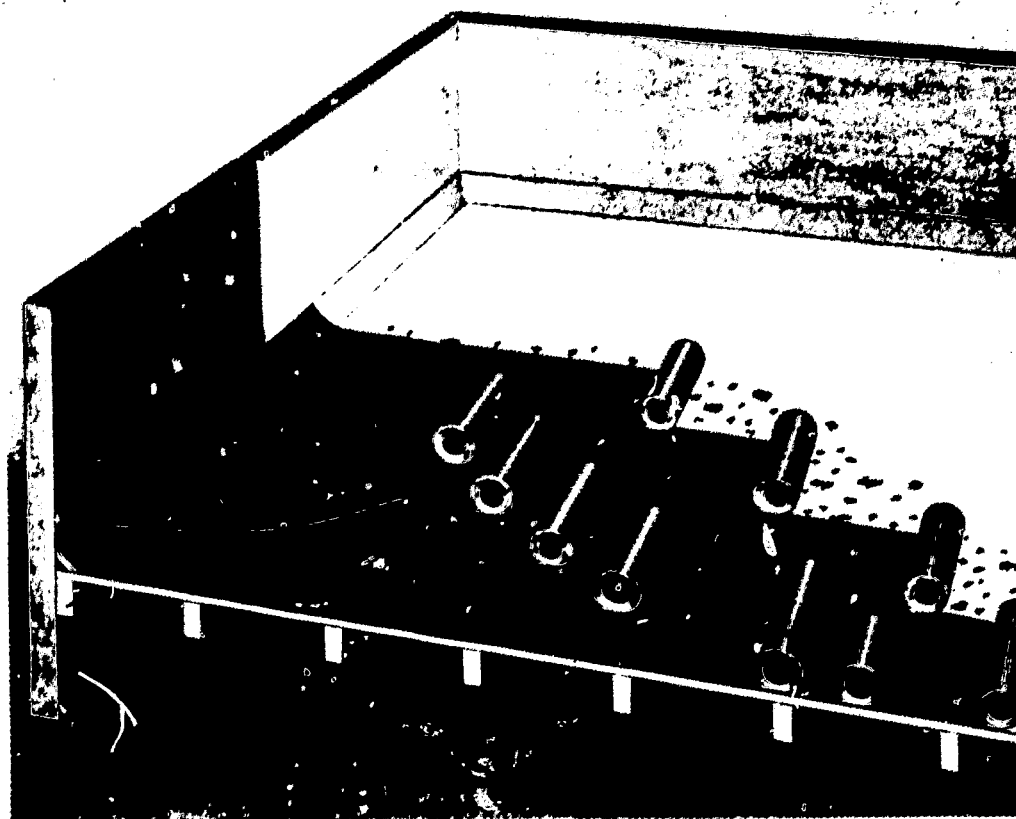

Fig. A-1. Roof assembly with base sheet and two felts
- Start the 2-ply at the low point by solid-mopping an 18-in. wide roll of felt, then solid-mopping a 36-in. area and embedding a full roll of felt. Follow this by solid-mopping the upper 19 in. of that roll, leaving 17 in. exposed (Fig. A-1).